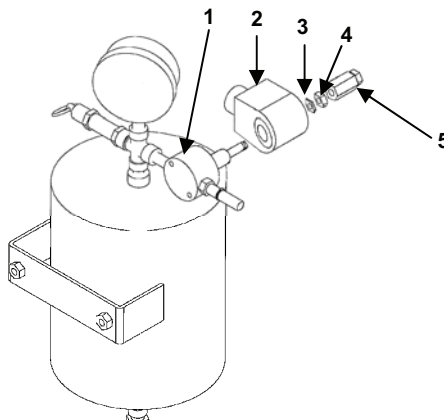

Figure 3. Air Tank Solenoid Coil Removal
- Remove vent assembly (Figure 3, item 5) from solenoid valve (Figure 3, item 1). See Figure 3.
- Remove nut (Figure 3, item 4) spring washer (Figure 3, item 3) and slide off the coil (Figure 3, item 2) from the solenoid valve (Figure 3, item 1).
- Unthread the electrical conduit from solenoid coil (Figure 3, item 2).